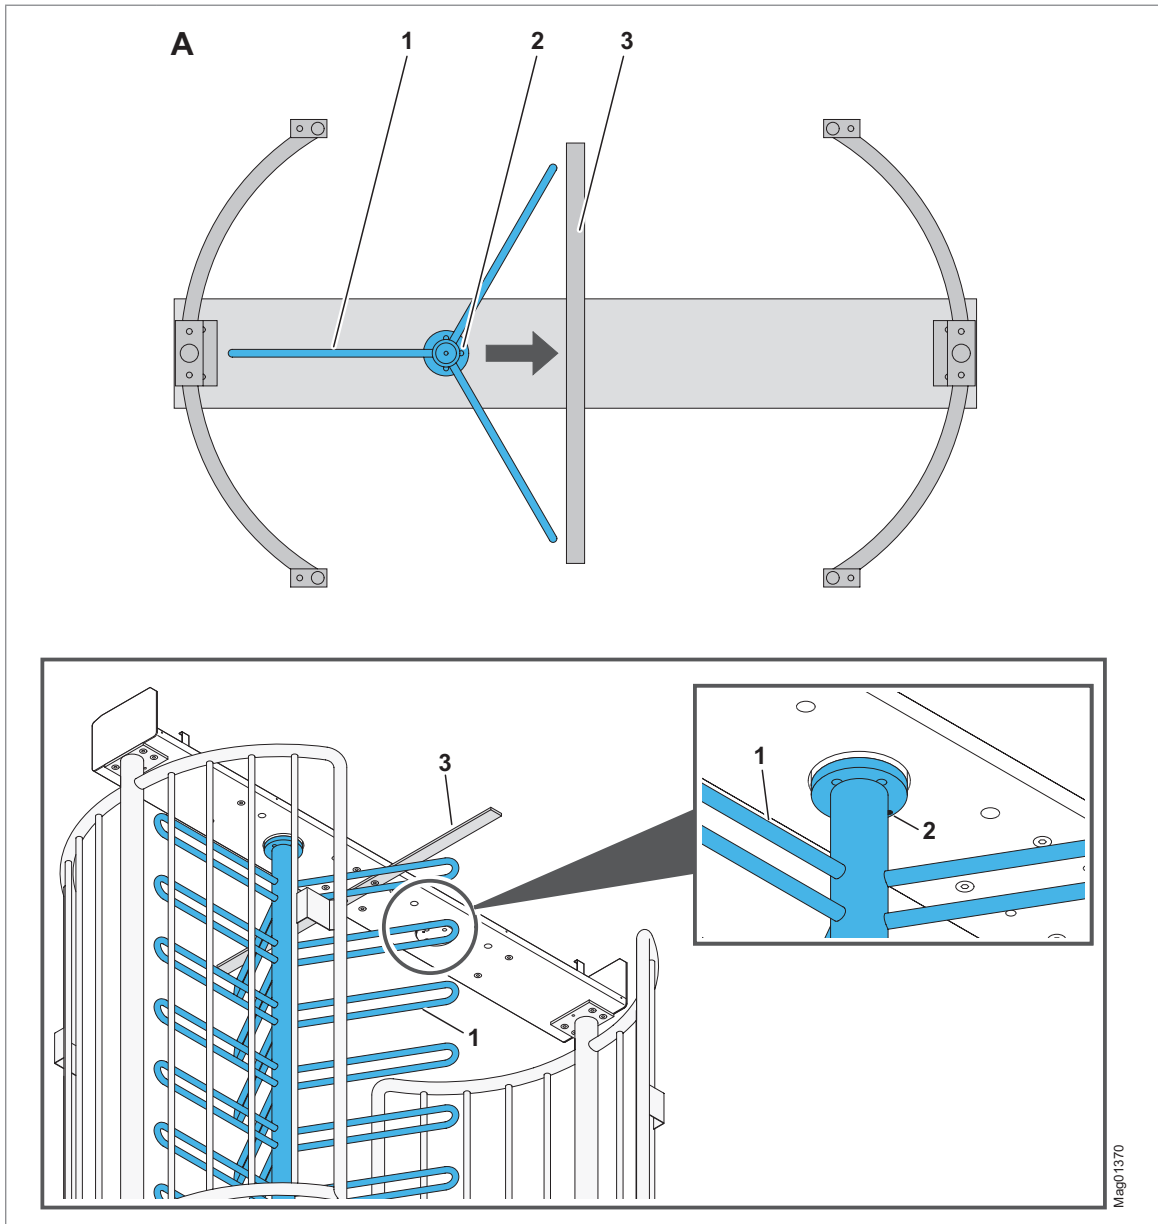

Fig. 26: Centre pillar alignment with heel guard before mounting – MPT-353 (3x120°)
5. Fix the centre pillar to the locking flange from above using the four screws supplied. Make sure that the centre pillar is correctly positioned in relation to the locking unit. ↗ Page 56, Fig. 26.